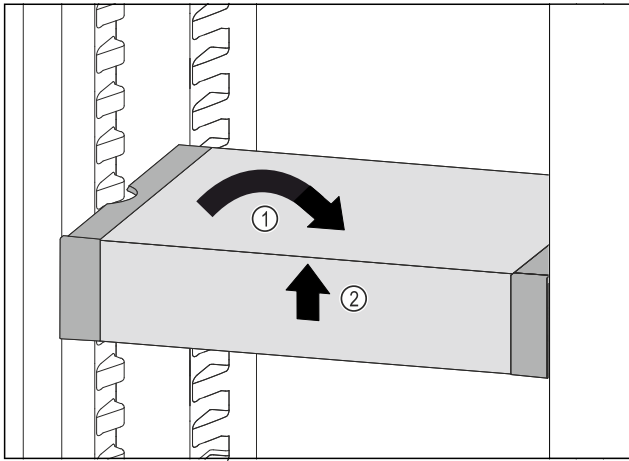

Fig. 130
- ▶ Set VarioSafe straight. Fig. 130 (1)
- ▶ Lift VarioSafe at the front. Fig. 130 (2)